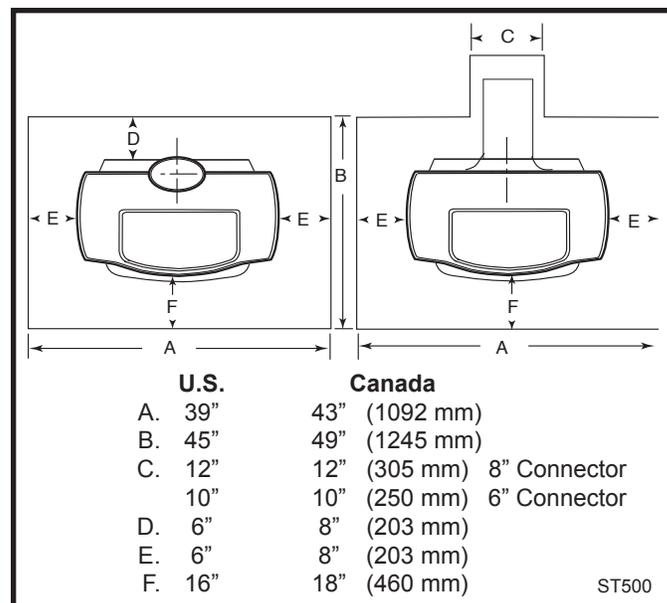

Fig. 11 Required floor protection dimensions.
**In U. S. installations** the floor protector is required under the stove and must extend at least 16" (not including the ash lip) from the front of the stove ("F", Fig. 11), and at least 6" from the sides and rear. ("D" and "E", Fig. 11)
In rear venting configurations, floor protection must also extend under the chimney connector and 2" to either side. ("C", Fig. 11) For the 8" (203 mm) connector, the protector must be a minimum of 12" (305 mm) wide. For the 6" (152 mm) connector, the protector must be 10" (254 mm) wide. The protector must be centered under the connector.
**In Canada:** A noncombustible floor protector is required under the stove as well. The floor protector must extend 18" (457 mm) to the front ("F", Fig. 11), and 8" (203 mm) from the sides and rear. ("D" and "E", Fig. 11)